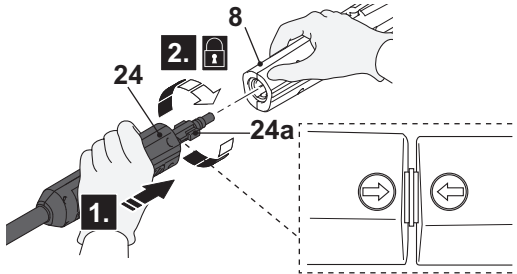

Fig. 5
- > Align the tongues (24a) of the extension lance (24) with the grooves of the connection port of the spray gun (8) and insert it. (Fig. 5, step 1).
- > Securely fit the extension lance (24) by turning it clockwise to lock it in place (Fig. 5, step 2). Ensure the arrow on the spray gun aligns with the arrow on the extension lance.